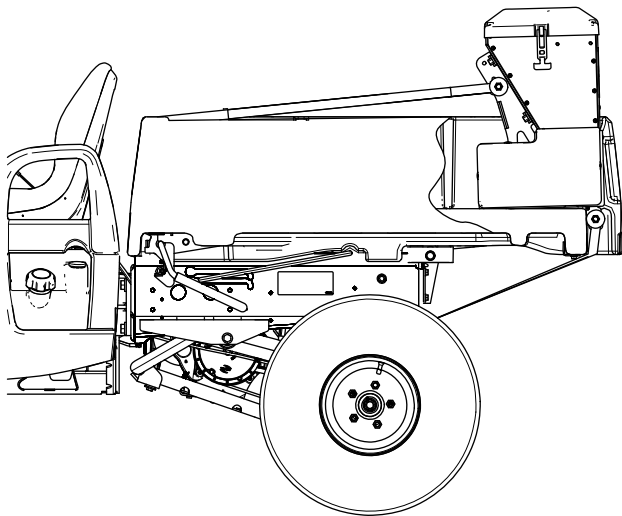

Figure 19
2. Slide the spreader onto the UTV bed until the bed stops contact the bed (Figure 19).